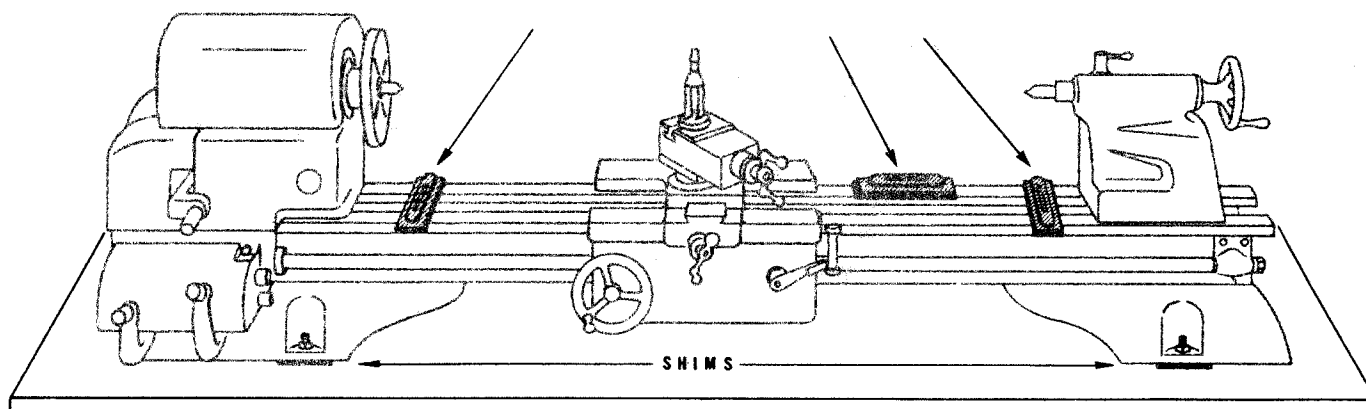

Figure 6
1. First level bed longitudinally, compensate for variations of bubble readings with thin metal shims *placed around bolts* between bed legs and bench top until bed is level -- refer to Fig. 6 for leveling positions.
2. Next, level the bed at headstock and tailstock -- see Fig. 6. Place level at right angles to the bed -- use a square to align the level. *Do not turn level end for end.*